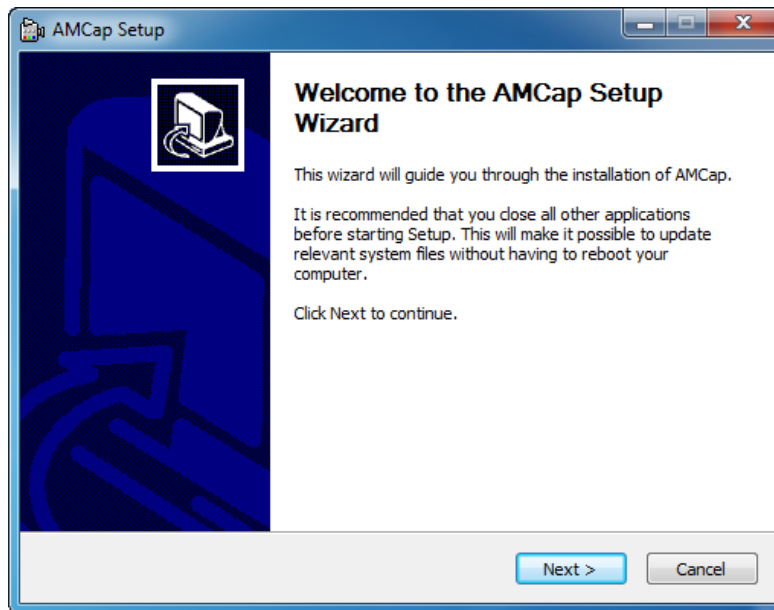

Figure 8-47: AMCap Driver Welcome Screen
- Step 8:** The **Welcome Screen** in **Figure 8-47** appears.